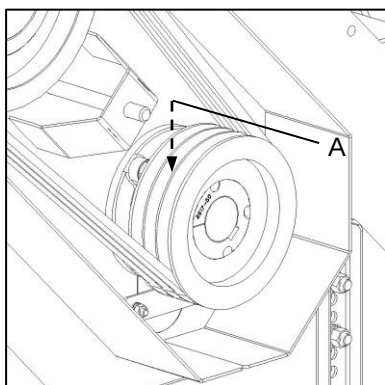
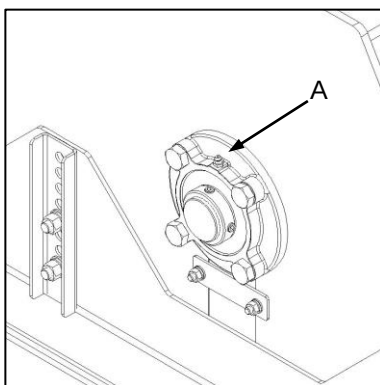
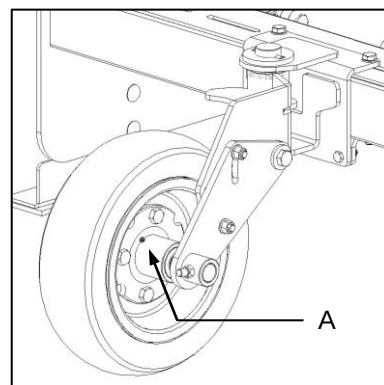

Fig. 1
Fig. 2
Fig. 3
- ✓ Lubricate rotating and sliding components. This includes rotor bearings (Fig. 1-A / Fig. 2-A) and wheel bearings (Fig. 3-A).
- ✓ Ghries draaiende en skuivende komponente. Dit sluit rotorkoeëllaers (Fig. 1-A / Fig. 2-A) en wielkoeëllaers in (Fig. 3-A).